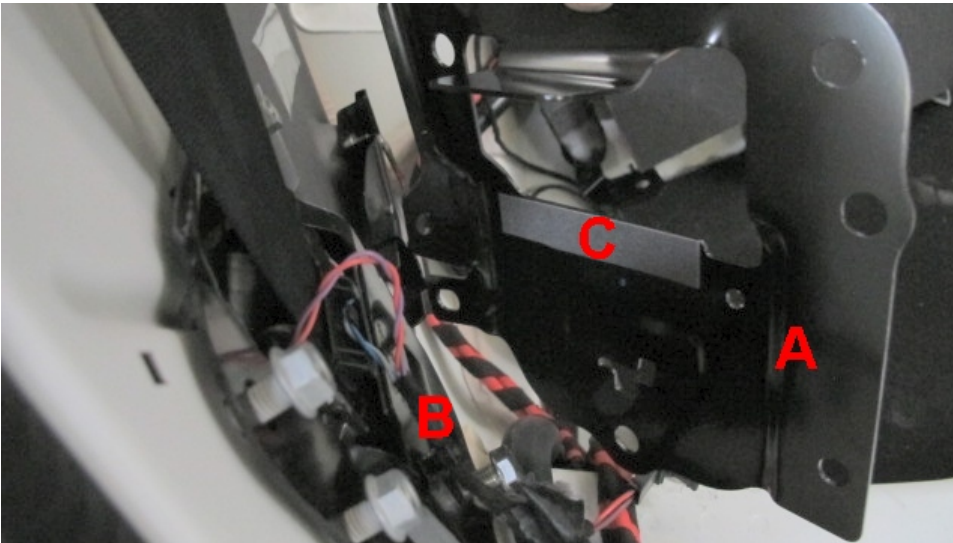

Figure 1
2. With the seat belt mounting plate (A) separated from the seat belt reel housing (B) apply isolation pad, part number 6N0971799 (C), to the inside face of the seat belt mounting plate (see Figure 1,2 and 3).